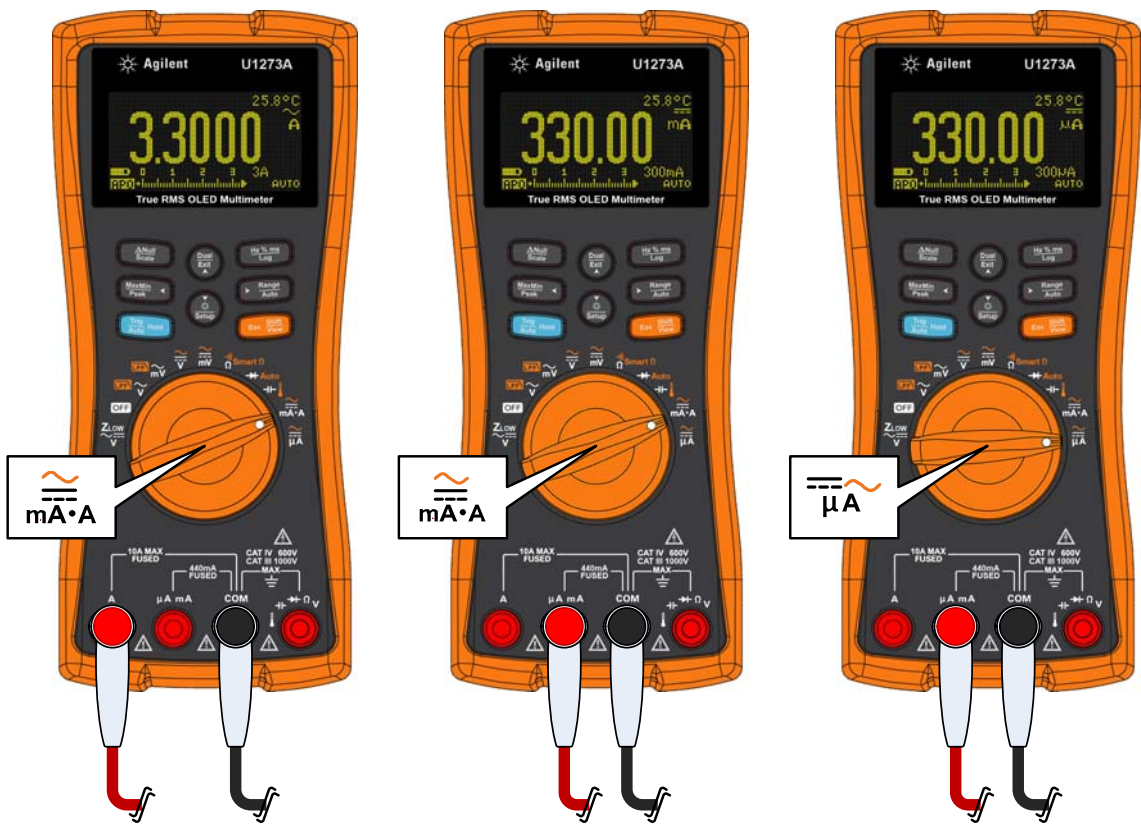

Figure 2-32 Current measurement setup
- To avoid blowing the multimeter's 440 mA fuse, use the **μA mA** terminal only if you are sure the current is less than 400 mA. See Figure 2-32 for test lead connections and function selection. Refer to the "Input warning" section for information on the alerts the multimeter uses when leads are not used correctly for current measurements.